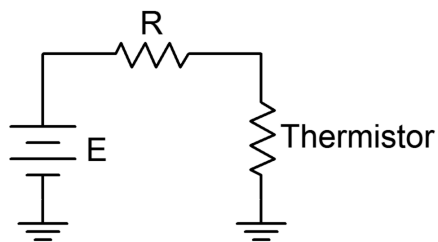

Figure 2
8. Build the circuit of Figure 2 using $E=10$ volts and $R=10$ k Ω . Measure the voltage across the thermistor and record it in Table 5 under “Room Temp”.